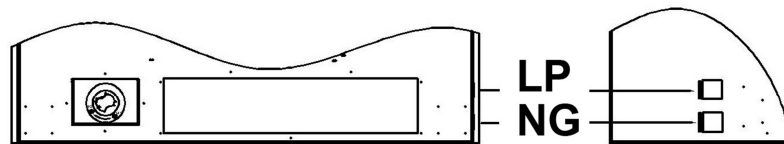

Figure 8,
1. Remove bottom screw from cover plate, see figure 8, and rotate to expose gas selection valve.